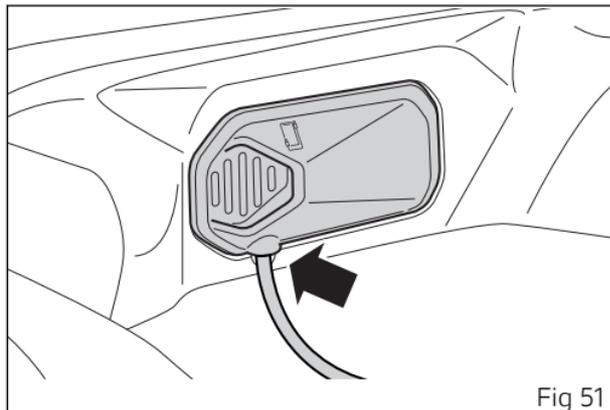

Fig 51
- 1) Place your thumb on the opening area and your opposite finger on the lid (1).
- 2) Press your finger on the back of the lid (1) to easily open it with your thumb.
- 3) Once opened, insert the cable with USB-A connector into the socket (2) and follow the cable passage to the outlet in the appropriate hole (Fig 51).
- 4) Close the lid (1) by applying the necessary pressure until a "clack" is heard.